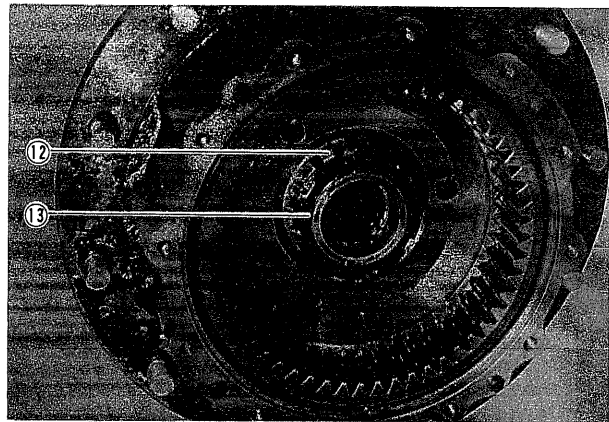

Fig. 68
- 1) Matchmark hub (17) and carrier (1). Remove cover fixing bolts (23) and remove carrier.
- 2) Do not pull axle shaft (28) off unless required, as this may score oil seal. To disassemble carrier assembly, pull axle shaft off.
- 3) Flatten out lock washer (12) and take off bearing nut (13). Then remove another lock washer and bearing nut. (Fig. 67, Fig. 68)